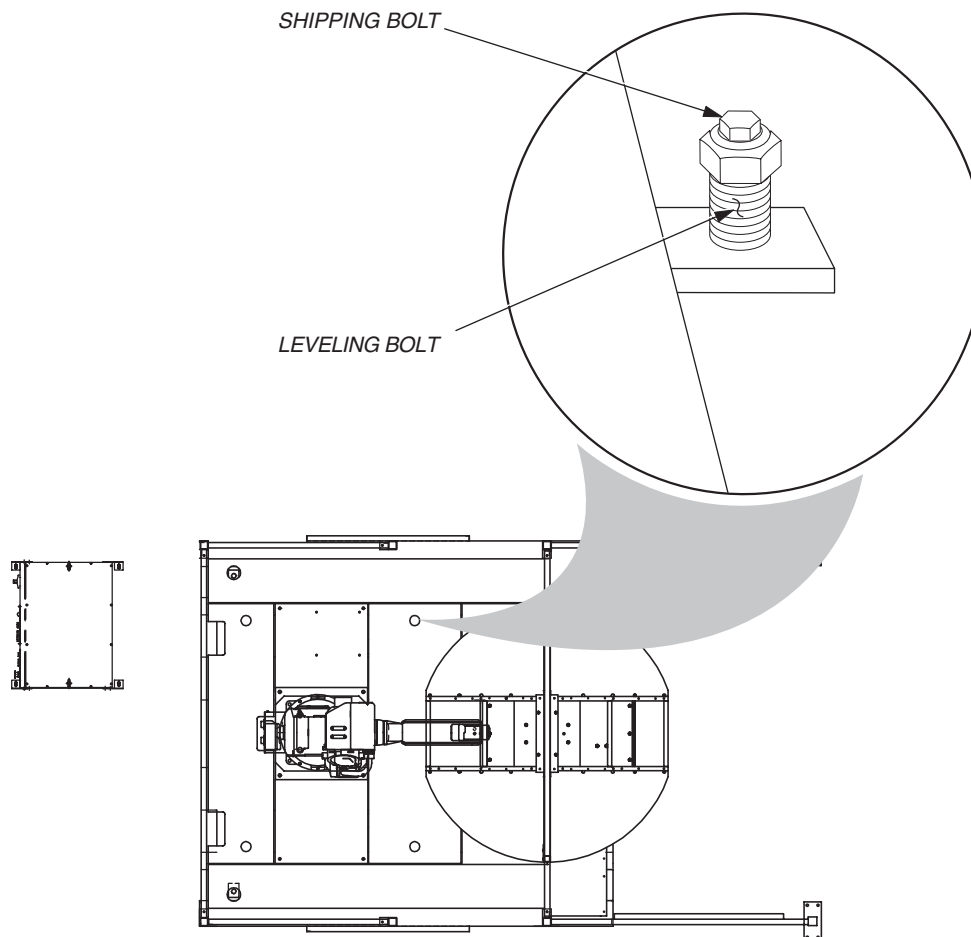

Figure 10 Unbolting the Robot Common Base
1. Unbolt robot common base from the wooden shipping skid using a 3/4-inch socket (see Figure 10).